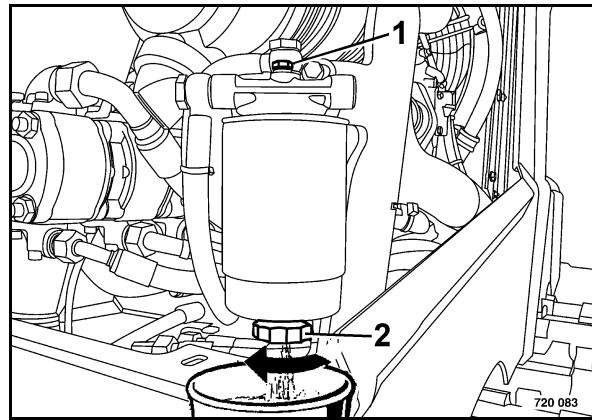

Fig. 92
- Slacken the bleeding screw (1) (Fig. 92) for a few turns.
- Slacken the drain plug (2) for a few turns and catch running out fuel / water.